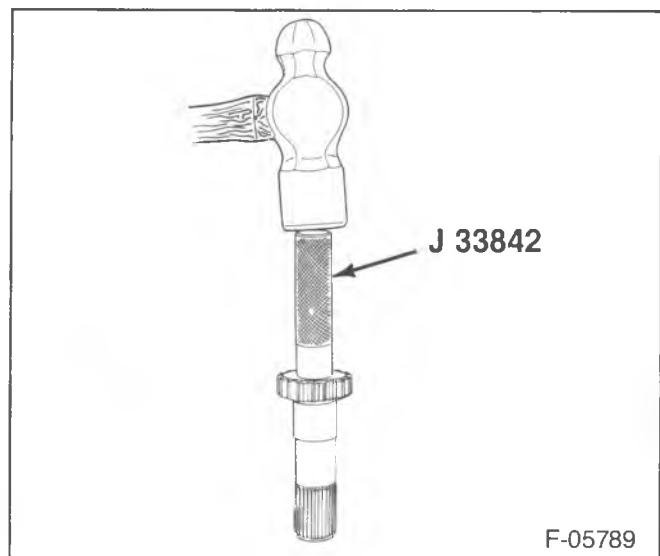

Figure 33—Installing the Differential Pilot Bearing
10. Differential pilot bearing (21). Use J 33842 (figure 33).
11. Washer (24) to the output shaft (23).
13. Sleeve (22).